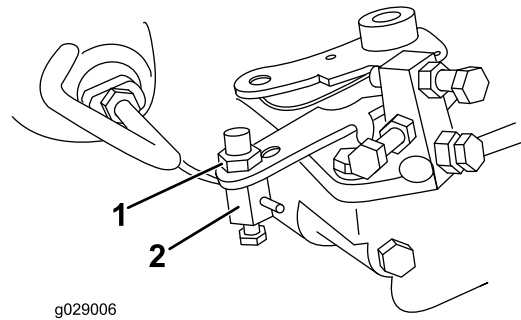

Figure 6
- Remove the nut securing the throttle-cable swivel to the speed-control lever (Figure 6).